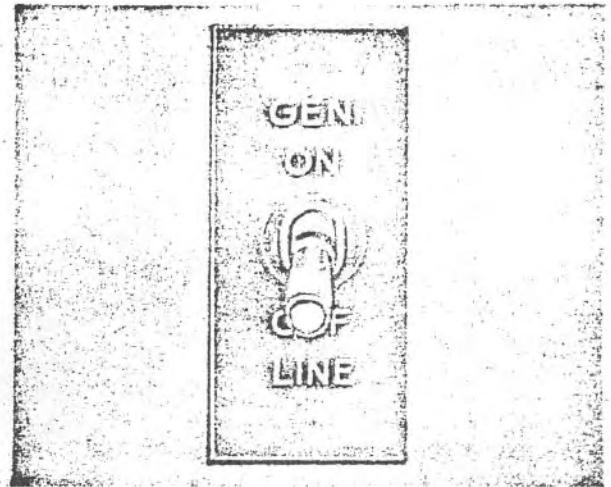

Figure 13—Generator Line Switch
(9) GENERATOR LINE SWITCH.—The generator line switch (figure 13) is located on the main switch panel. The switch is to isolate the generator in the event of failure of the generator charging rate. The switch should be turned off in case of a forced landing, and whenever leaving the airplane.